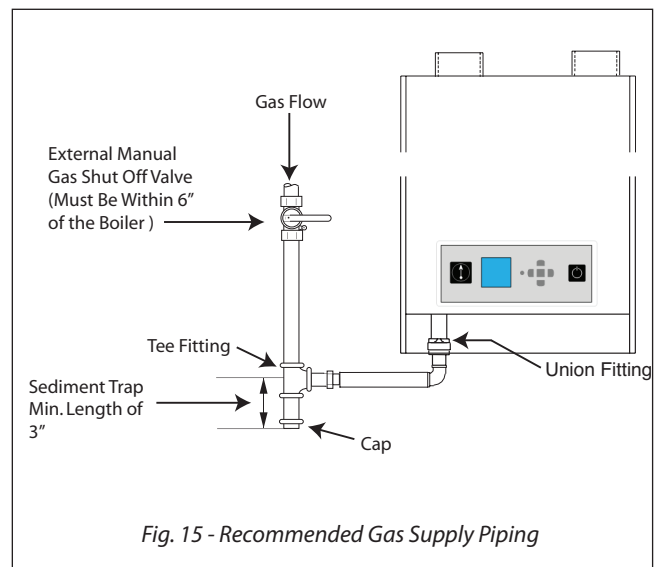

Fig. 15 - Recommended Gas Supply Piping
2. Install a manual shutoff valve in the gas supply piping as shown in *Fig. 15 below*. For installations in Canada, the installer must tag and identify the main shutoff valve.
3. Install a sediment trap (drip leg) on the gas supply line prior to connecting to the GALLANT gas train as shown in *Fig. 15 below*.